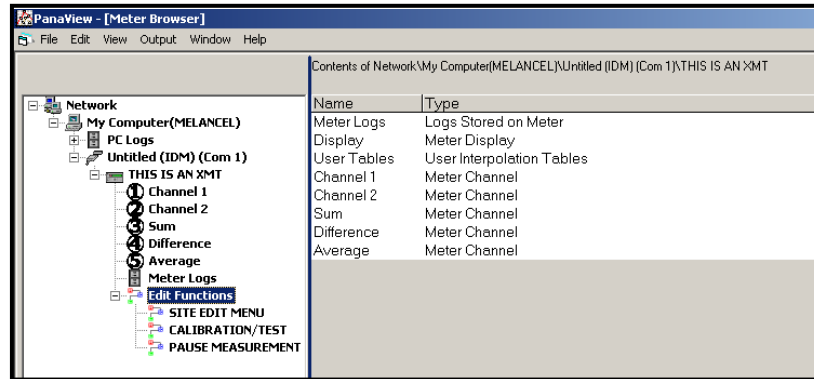

Figure 41: Menus in the *Edit Functions* Option
2. Expand the *Edit Functions* option. The window now appears similar to that shown in Figure 41 on page 26.